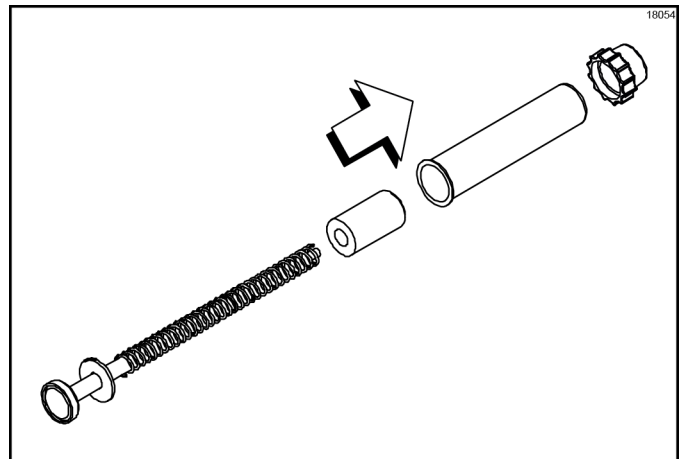

Figure-74
5. Remove the plunger nut, tube, and insert from the plunger assembly. (See Figure-74.)